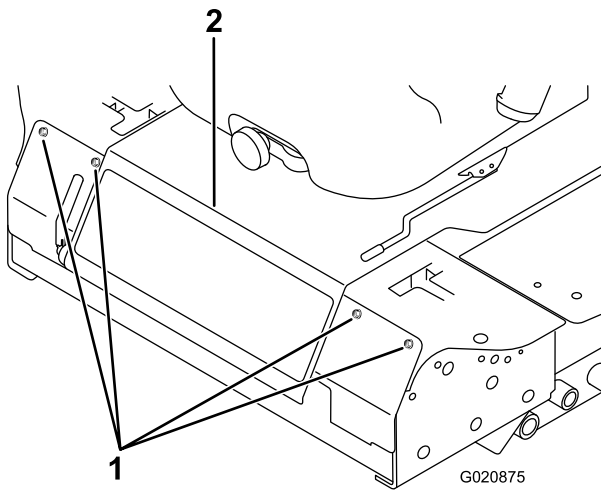

Figure 77
3. Remove the bolts securing the front panel and remove the panel (Figure 77).